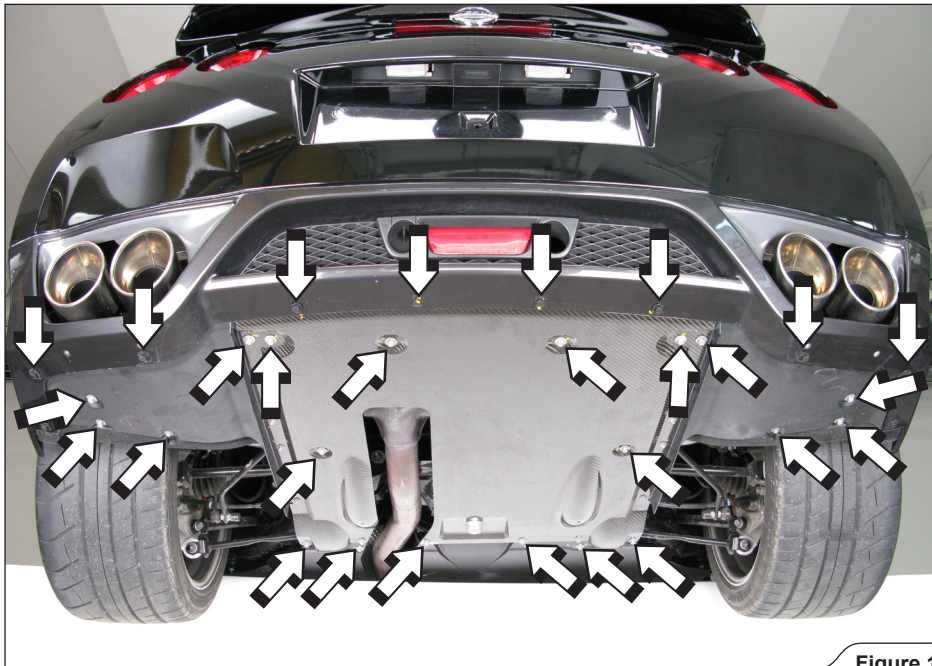

Figure 1
1. **For Slip-On and Evolution:** unscrew the bolts, undo the plastic fasteners and remove the panels off the vehicle (Figure 1, 2).
! **IMPORTANT:** for facelift GT-R models only: make sure, that you disconnect the rear fog light connector, before removing the rear underbody panel (Figure 1)!